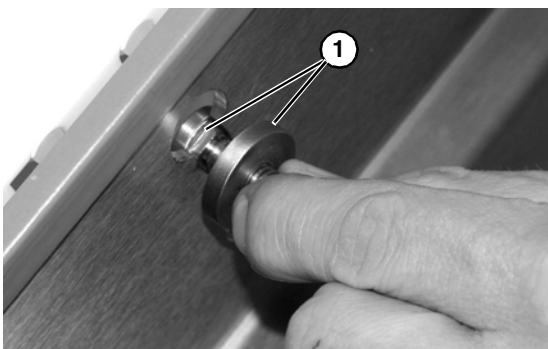

Figure 38
1. Insert carriage bolts with spacers (**Figure 38, item 1**) into slotted holes in conveyor side.